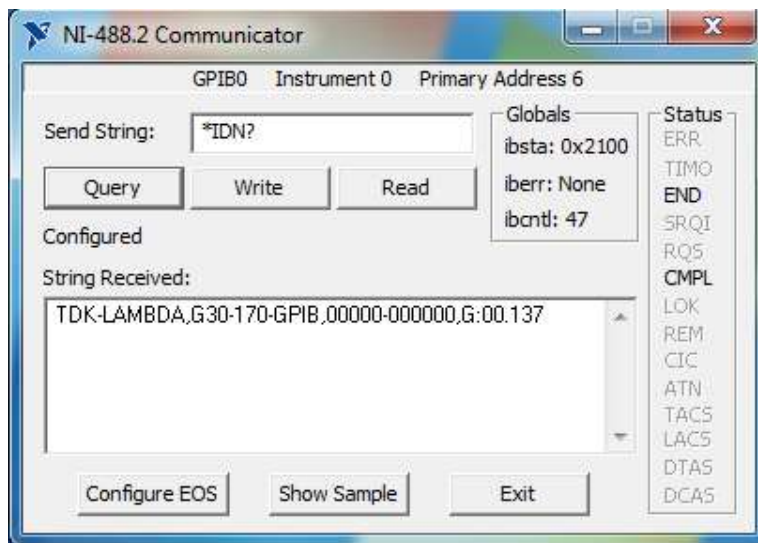

Figure 7-6: ID String Query
NI-488.2 Communicator appears. Refer to Figure 7-6.
6. Click Query. Refer to Figure 7-6.